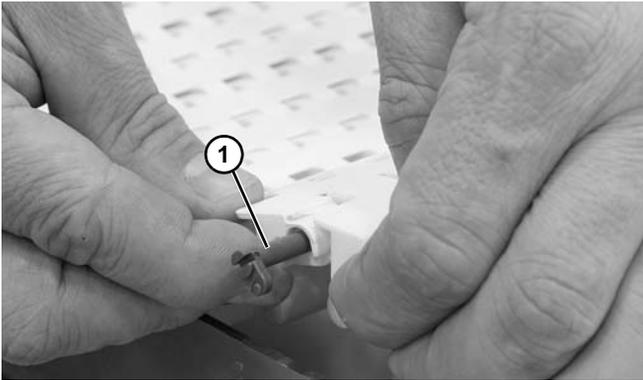

Figure 15
7. Insert the belt rod (Figure 15, item 1) and push it through the belt.